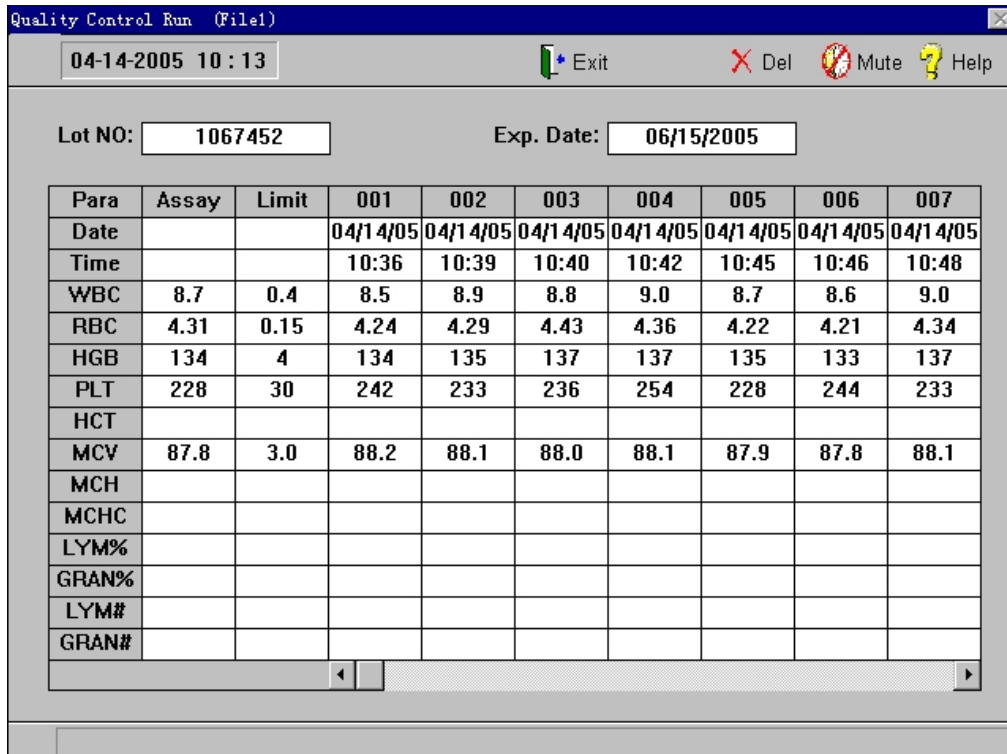

Figure 4-2
- a) In the blood cell analyzer windows, press right key of the mouse, pops up the menu. Select "QC Run" in the menu. The instrument enters quality control run window, as shown in figure 4-2.